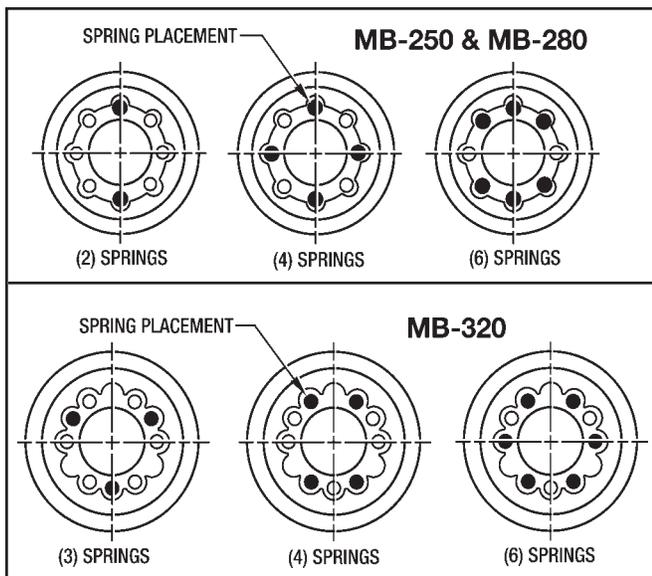

Figure 3.4
2. Lubricate the (2) O-rings (#40) and the Liner (#43) and install them on the Piston (#3).
4. Place correct number of Springs (#36) into Piston (#3) (See **Table 2.2** for the number of springs and *Figure 3.4* for placement of springs).